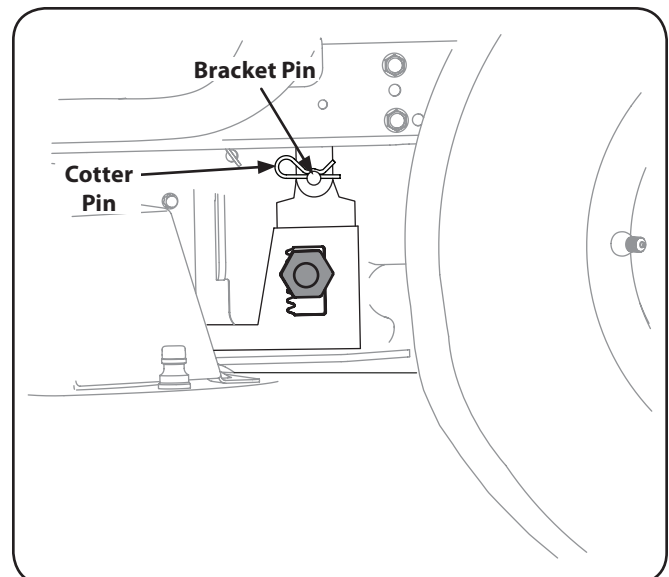

Figure 7-7
- Once the brackets are properly aligned, slide the pin on the deck lift adjustment bracket into the lift bracket and secure with cotter pins. See Fig. 7-7.